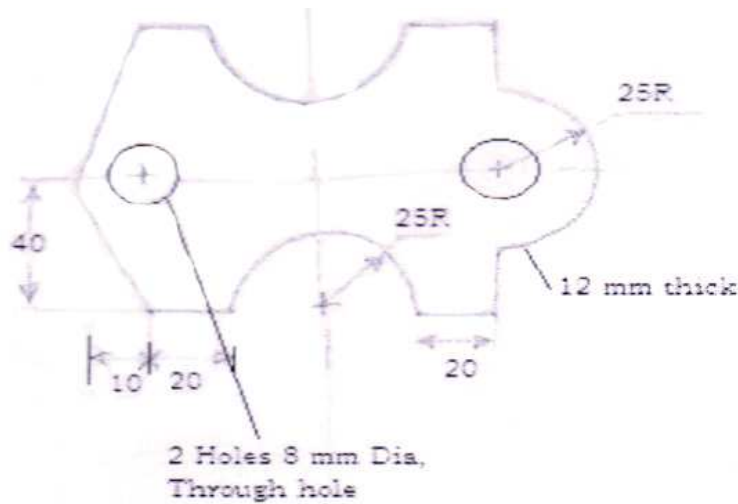

Figure 4 Q. No. 8 (b)
- b) Write complete CNC part program to generate end profile and drill the holes as shown in figure 4. Assume suitable machining data for speed and feed etc. [10]